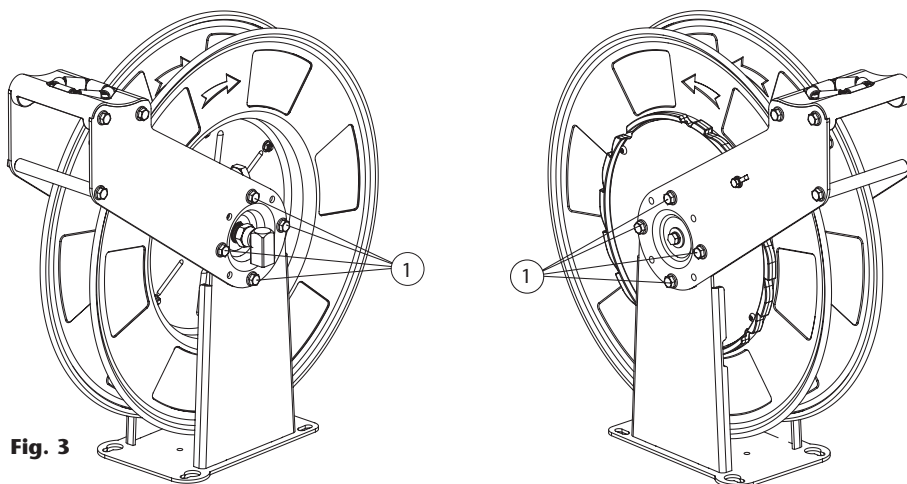

Fig. 3
To move the hose guide arms and the hose outlet mouth, it is necessary to remove screws (1) (fig. 3). The spool and the hose guide arms will be released from the base. Place the guide arms in desired position and replace screws.